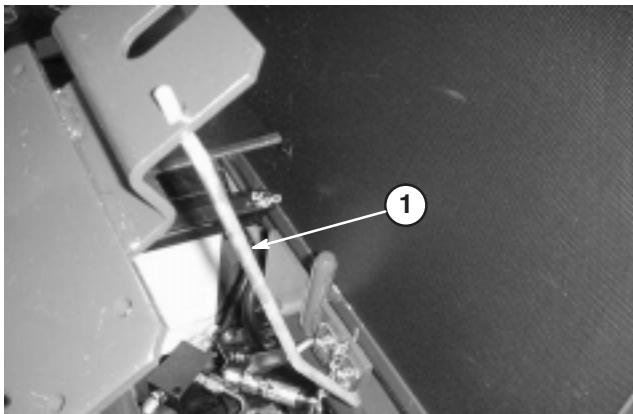

Figure 10
4. Hold seat up with seat support rod (Fig. 10).
6. Hold seat up with seat support rod (Fig. 10).